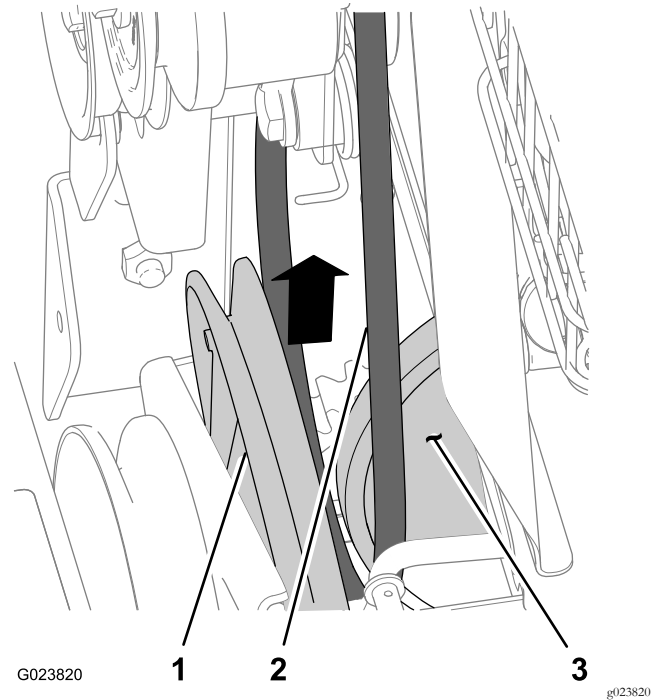

Figure 43
- Slip the traction belt out of the groove of the traction pulley and up between the pulley and the friction wheel (Figure 43).
1. Align the traction belt between the friction wheel and the traction pulley (Figure 43).